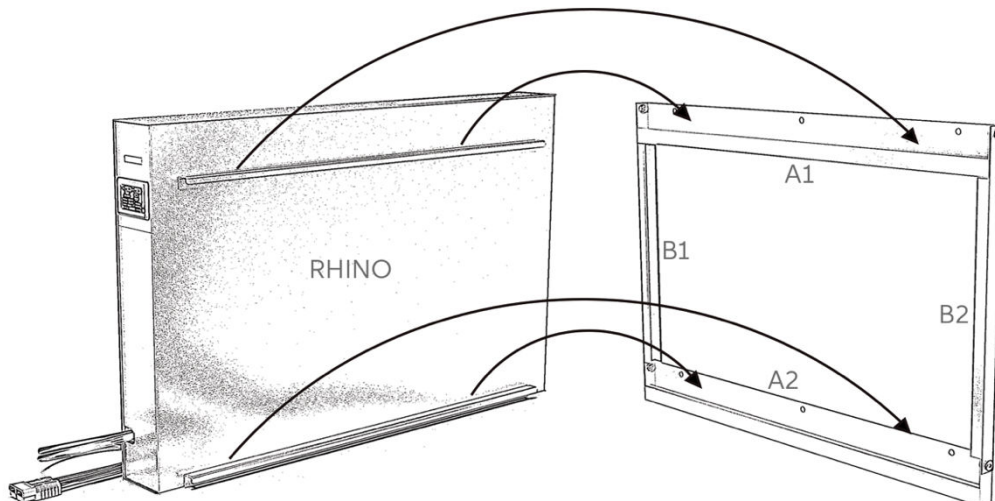

Fig. 5
1. Using rope handles (RH) and supporting the front of the unit with your hand, set RHINO onto mounting crossbars (A1 & A2), as seen in Figure 5. If crossbars are spaced appropriately and level, RHINO should set cleanly onto the crossbars (A1 & A2).